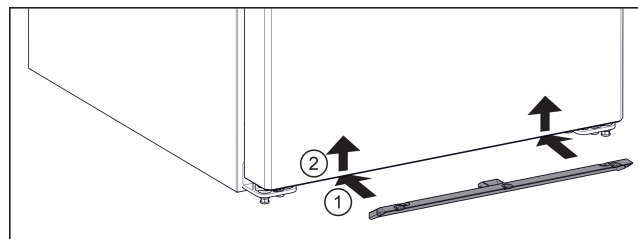

Fig. 5
- ▶ Slide the mosquito screen under the appliance. Fig. 5 (1)
- ▶ Push the mosquito screen upwards with both hands. Fig. 5 (2)